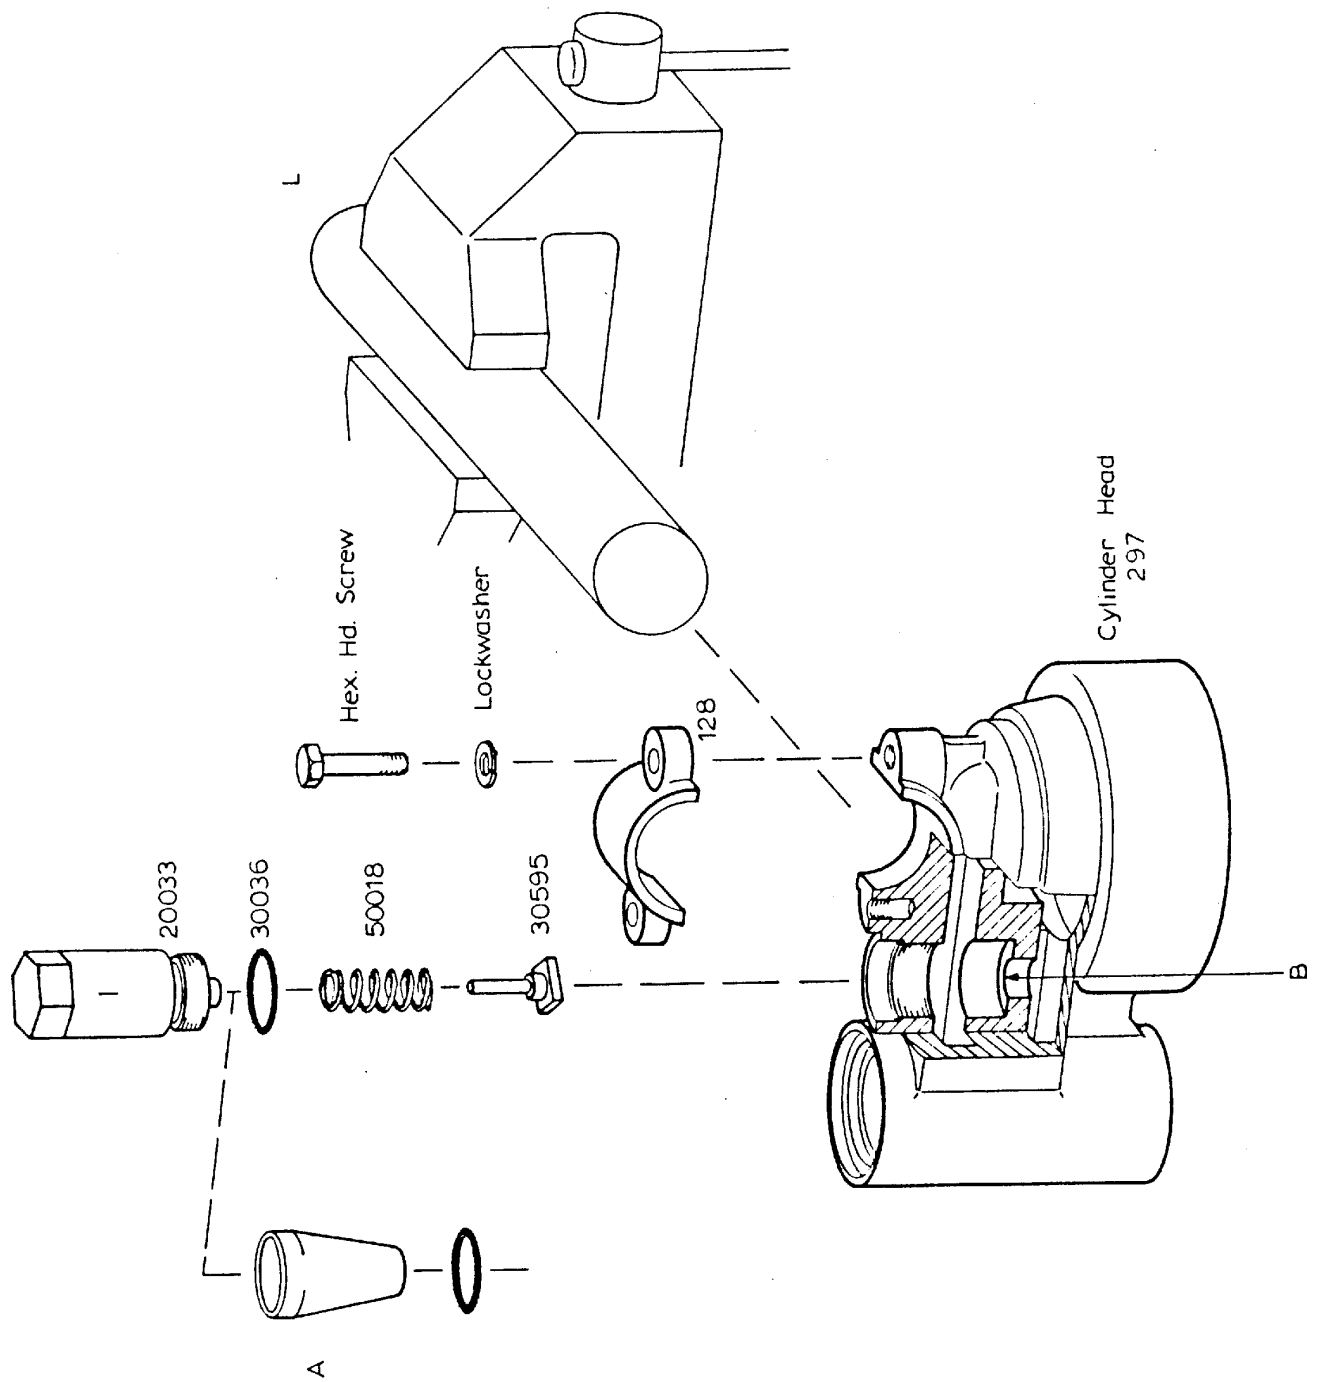

Figure 1
(see also “example of assembling” Fig. 1 to 8)
- b) It may occur that there is a leakage between Check Valve Stem 30595 and Seat (see Fig. 1). If necessary, replace Valve and adjust Seat. Former presses have been equipped with a metallic Valve instead of a plastic one. Such metallic Valve has to be tightened by means of an O-Ring. Old parts can simply be replaced by 30595.
a) CHECK VALVE STEM 30595 does not work, causing that oil cannot flow back. Oil will then accumulate in the top of the Booster at PISTON ROD GUIDE 894 (see Fig. 1 and 4).
(Figure 1)